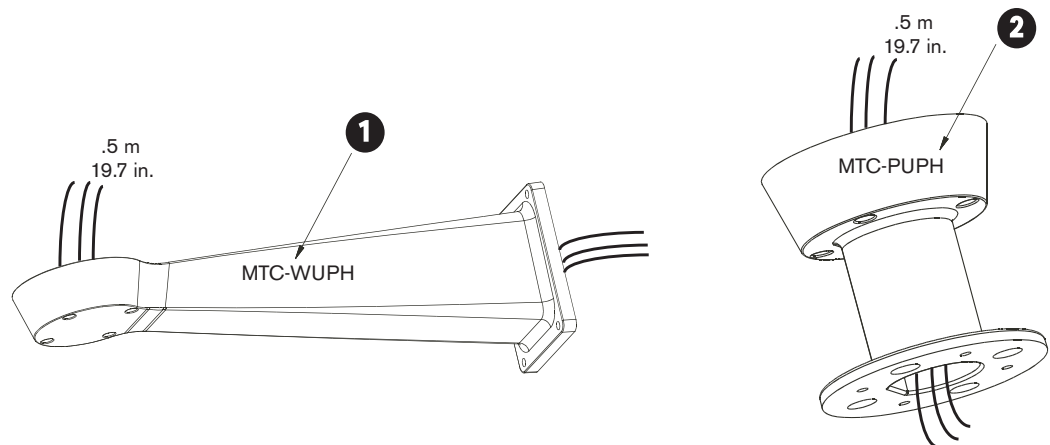

Fig. 4.1 Optional Wall Mount (1) or Pole Mount (2)
2. Insert the cables into the optional wall or pole mount so they protrude approximately .5 m (19.7 in.) (see *Figure 4.1*).